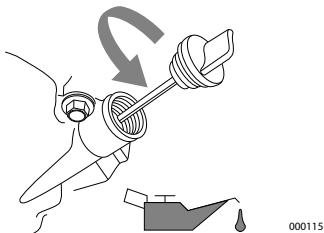

Figure 4-1. Engine Oil Fill
3. See Figure 4-1. Remove oil fill cap and wipe dipstick clean.